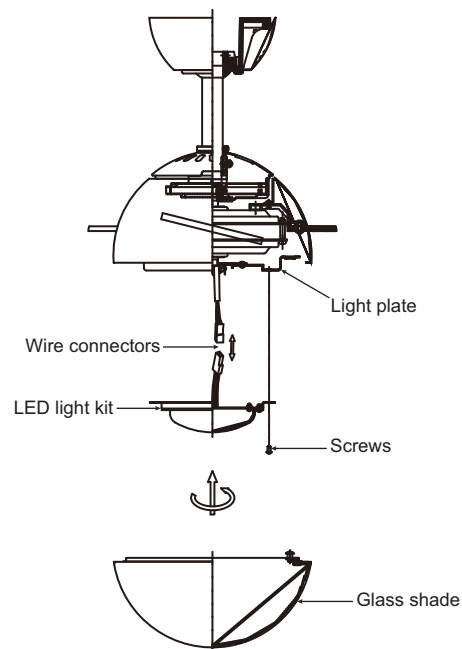

Fig. 16
Step 1. Loosen the three mounting screws on the inside of the LED light kit. (Fig.16)
Step 2. While holding the LED light kit under the fan motor, make the wire connections: (Fig. 16)
Step 3. Tuck the connections neatly into the light plate. Place the key holes on the LED light kit over the 2 screws previously loosened from the light plate, turn the LED light kit until it locks in place at the narrow section of the key holes. Secure by tightening all three screws. (Fig.16)
Step 4. Raise the glass shade against the LED light kit and turn clockwise until snug, DO NOT OVERTIGHTEN. (Fig. 16)